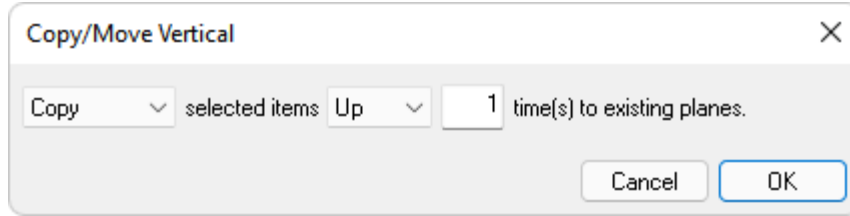

FIGURE 10-4
- Click on the drop-down box labeled *To* and select **Up**. This will change the *Copy/Move Vertical* window to be as shown in **FIGURE 10-4**.